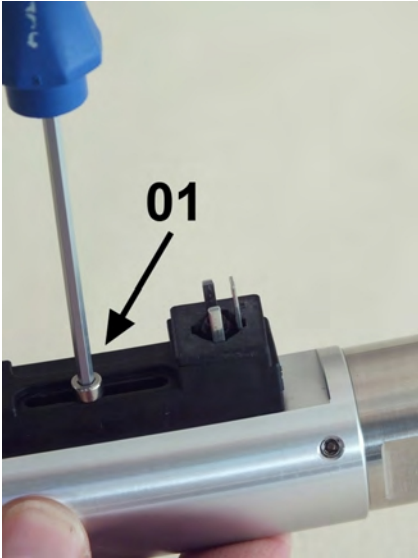

Fig. 54: Loosen set screw
3. Using a hex screwdriver (Fig. 54/01) remove the set screw of the switch contact
7. Insert set screw (Fig. 54/01) and tighten it slightly so that the switch contact can still move easily
9. Retighten the set screw (Fig. 54/01) observing the proper tightening torque (☞ Chapter 11.1 "Tightening torque" on page 75).